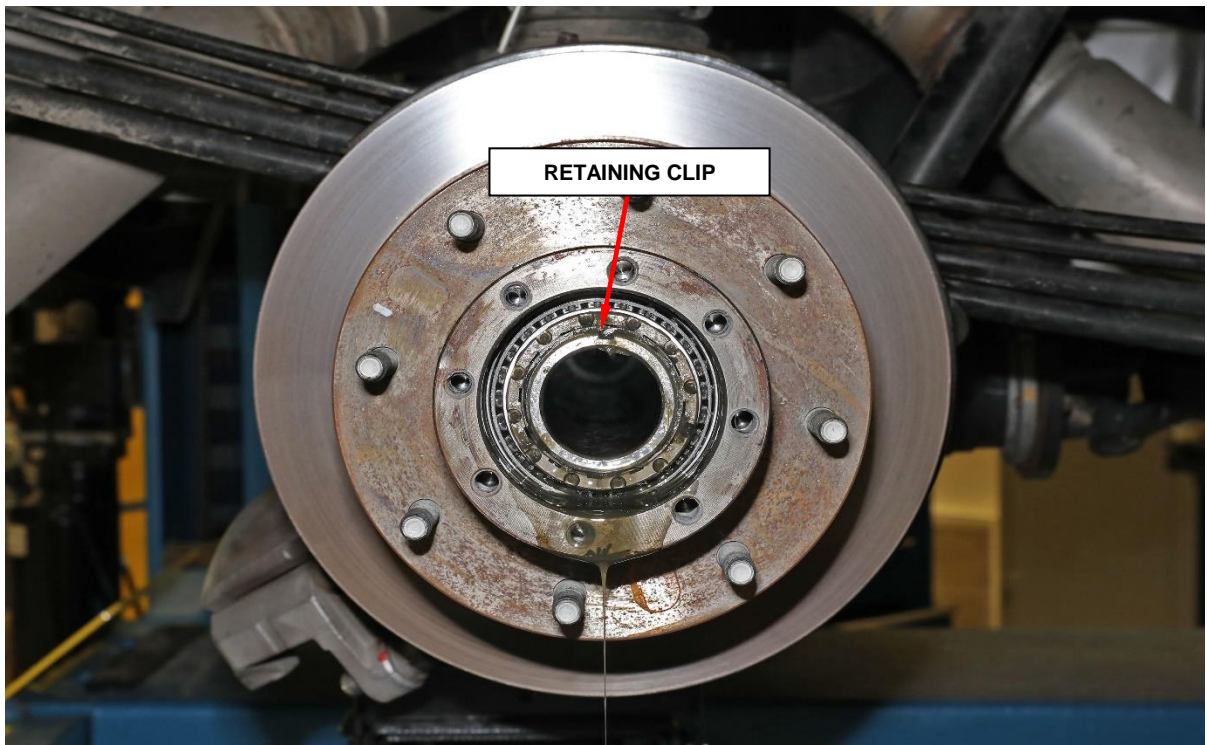

Figure 10 – Retaining Clip
6. Remove the retaining clip from the hub. **Note the direction it is installed** (Figure 10).
30. Install the retainer ring (Figure 10).